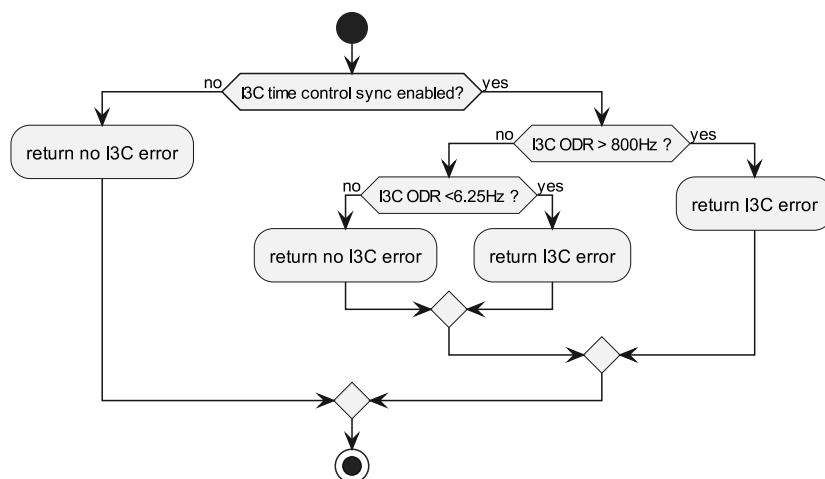

Figure 27 : Conditions for I3C Sample Rate (ODR) Configuration Errors
**ODR Configuration Error** The synchronous mode feature will operate in the correct manner only when the user follows the constraints on the supported sample rates. The device checks continuously for matching values of sample rates. If the value for one of the signals acceleration, angular rate or temperature is not within the limits, the i3c\_error bit is set. The conditions for return an I3C error for an invalid sample rate (ODR) is detailed in Figure 27.